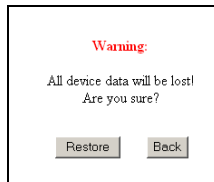

Figure 35 Warning
1. From the menu choose **Restore Factory Settings**. A warning appears see Figure 35.